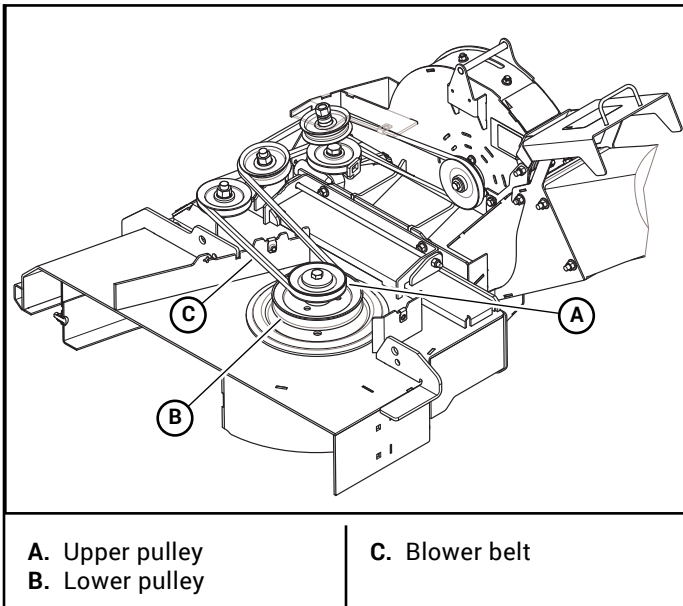

Figure 3-26
15. Install and route the blower belt around the blower pulleys and the upper pulley on the double pulley. This belt is self-tensioning. Figure 3-26